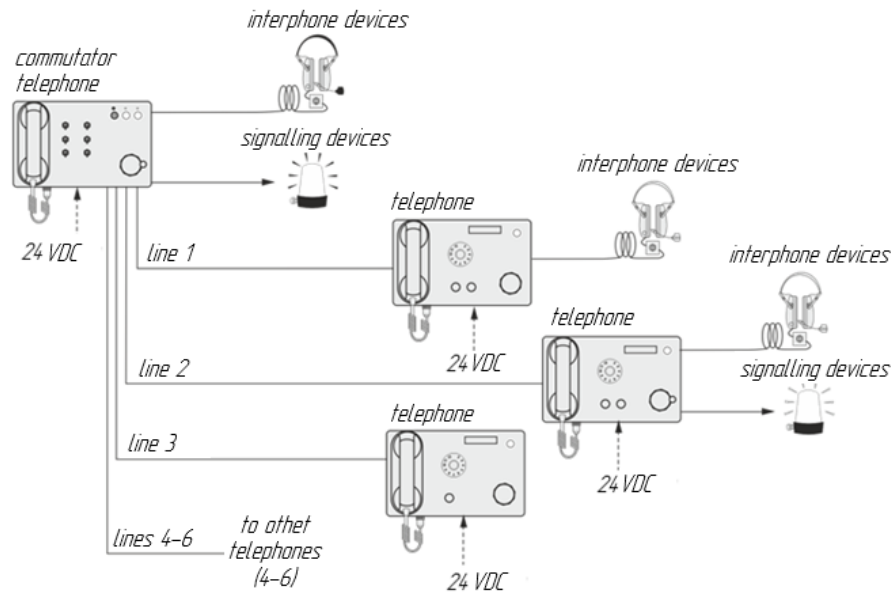

Figure 3 – Example of user network with commutator telephones and telephones
b) communication with commutator telephones and telephones – to organize communication (pair and general list) between the main station and user group, see Figure 3;